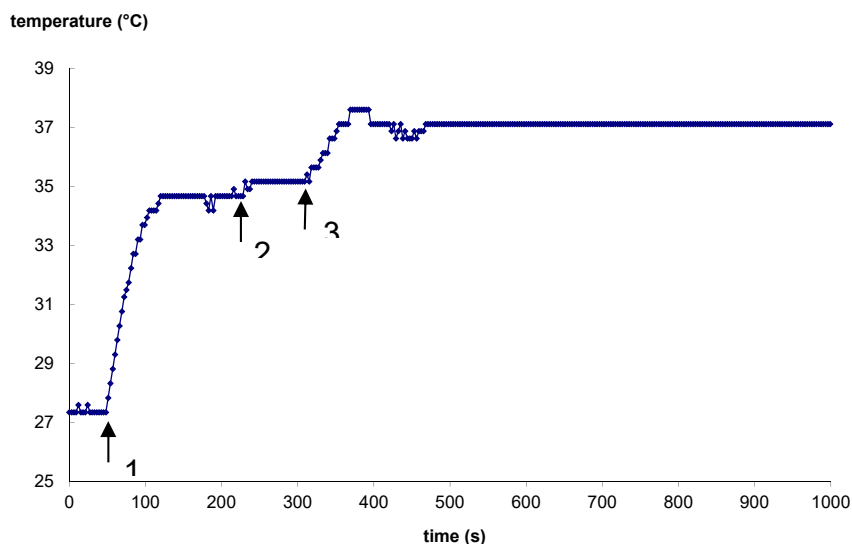

Figure 6: Time course of temperature regulation of the PTC-10.
- If the desired temperature is not reached first set the GAIN to a slightly higher level and then – if necessary – raise the INTEGRATION (see Figure 6).
In Figure 6 the time course of temperature regulation of the PTC-10 is shown. As resistive load a bulb (12V, 21W) was used. The temperature sensor was fixed directly on the bulb and sensor and bulb were wrapped with foam. Starting temperature was 27,3 °C. Starting conditions were: LIMITER set to 0, GAIN set to 0, INTEGRATION off.